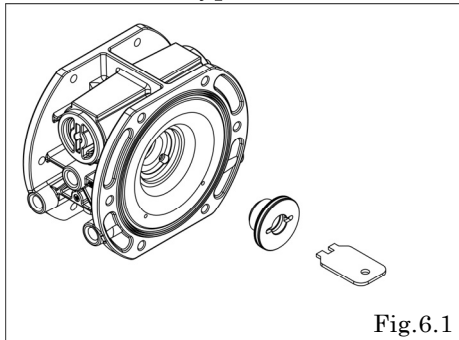

Fig.6.1
- Remove the guide bushing with Cap remover (Special tool: 717114) [Fig.6.1]